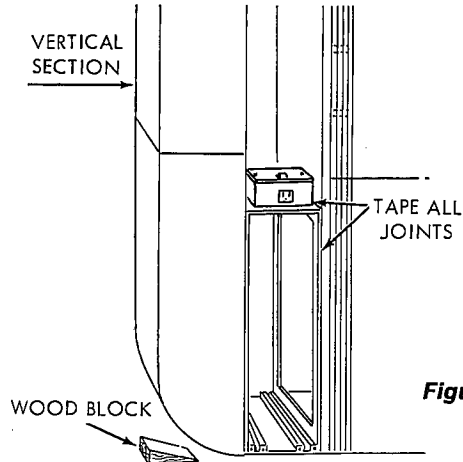

Figure 16
5. Connect the vertical duct section to the elbow. Wedge a wood block between floor and elbow for support (figure 16).